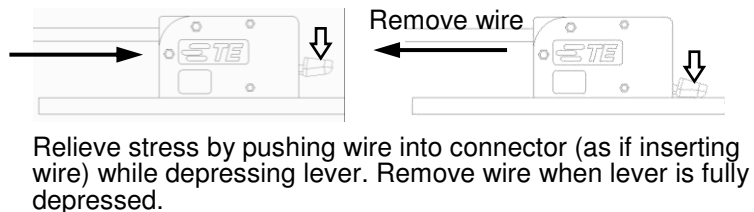

FIGURE 9
Releasing wires from the BUCHANAN WireMate Two Piece Connector is accomplished by depressing the release lever paddle corresponding with the wire to be released, then removing the wire from the connector. The appropriate release paddle is aligned with the selected wire, on the opposite side of the connector, as shown in Figure 9. Depressing the wrong release paddle will not allow release of the selected wire. The following steps describe the procedure to remove/disconnect a wire from the BUCHANAN WireMate Two-Piece Connector (ref. Figure 9):
4. With the lever paddle depressed, gently pull the wire from the connector (see "CAUTION" in Figure 9).